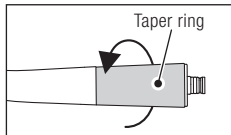

Fig. 36
- ➊ Loosen and remove the taper ring at the rear of the handpiece (Fig. 36).